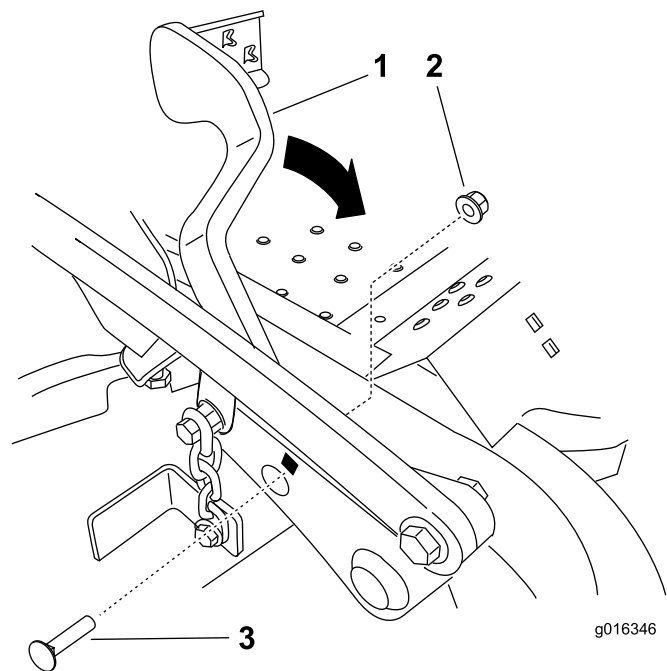

Figure 19
2. Rotate the lift-assist pedal to the correct position and install the carriage bolt (3/8 x 1-1/2 inches) and locknut (3/8 inch) as shown in Figure 19.